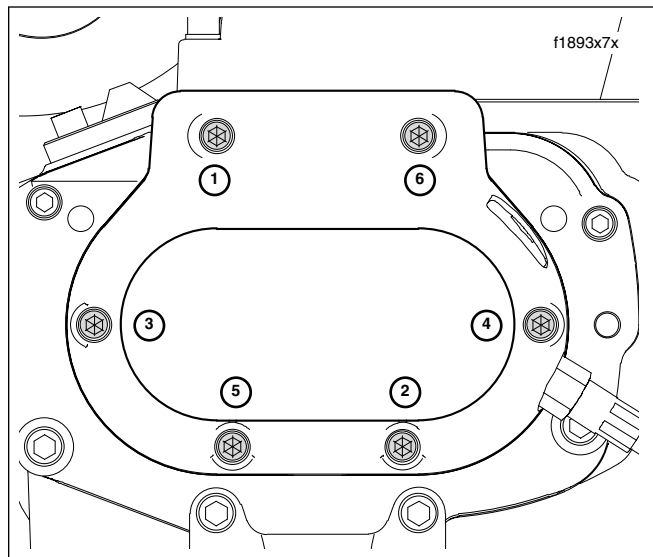

Figure 7-13. Clutch Release Cover Torque Sequence
15. Holding clutch release cover in position against transmission side door, install six socket head screws. Alternately tighten screws to 84-132 **in-lbs** (9.5-14.9 Nm) in the sequence shown in Figure 7-13.
8. Holding clutch release cover in position, install six socket head screws. Tighten screws to **84-132 in-lbs** (9.5-14.9 Nm) in the sequence shown in Figure 7-13.